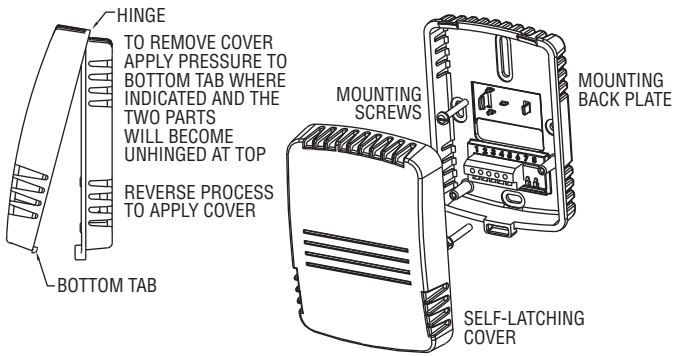

Figure 1
1. Push tab on bottom of cover and lift cover from back plate. (See Figure 1).
Remove the cover of the unit as shown in Figure 1. The Current/Voltage select switch is located on the back of the circuit board. Set the switch "IOUT" for current, "VOUT" for voltage.
To access the DIP SWITCH, remove the cover of the unit as shown in Figure 1. The DIP SWITCH is located on the back of the circuit board.
1. Remove cover as shown in Figure 1.